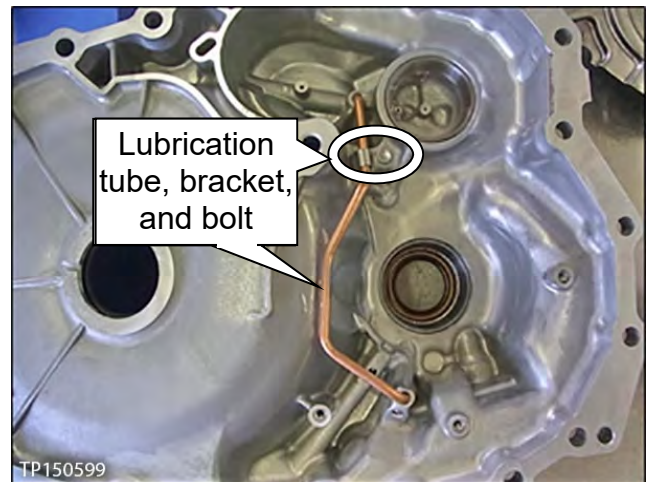

Figure 118
- b. Remove the bolt and then remove the lubrication tube and its bracket (Figure 118).